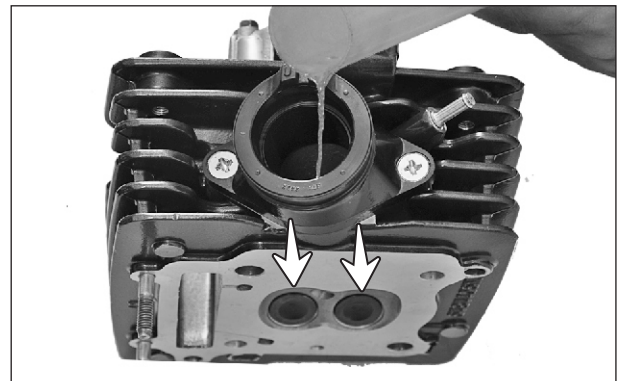

Fig. 3.73
- After assembling the valves, pour petrol into the intake port and look for leakage of the petrol around valve intake seating. (Fig. 3.73)